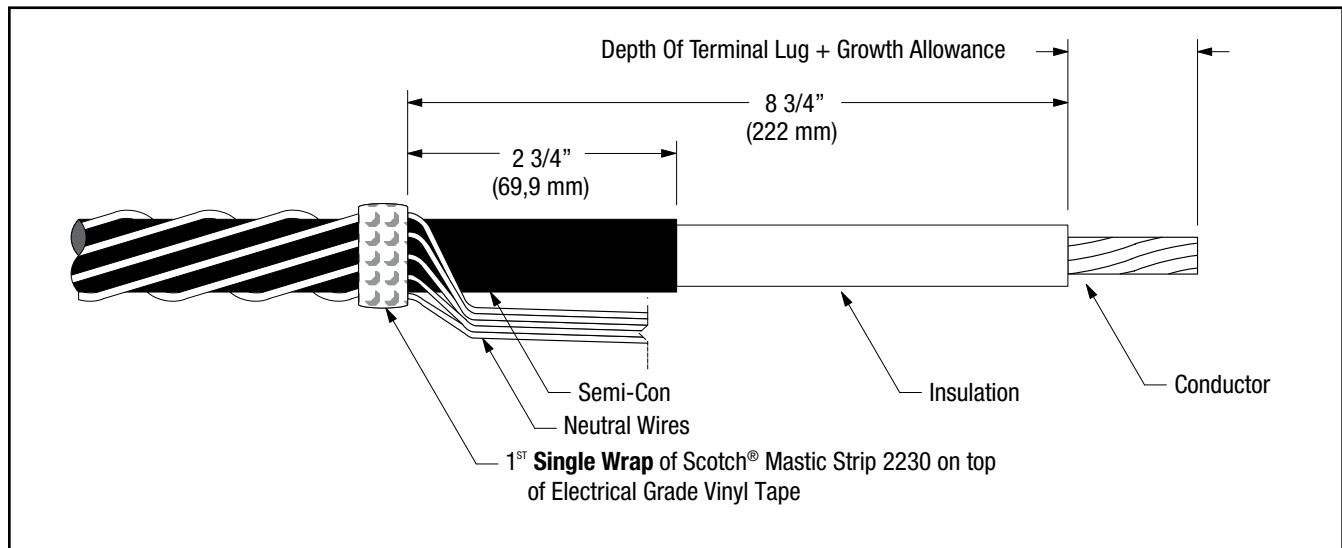

Figure 7
- 6.3 Prepare cable using dimensions shown in Figure 7. **BE SURE TO ALLOW FOR DEPTH OF TERMINAL LUG OR CONNECTOR.** If using 3M Shearbolt Lugs QL2 Series: Two Hole, or 3M Mechanical Shearbolt Connector QCI Series, proceed to Step 6.4. If using a Crimp Type (Compression) lug, measure the depth of the barrel. If using a Crimp Type (Compression) connector, measure to the barrel center stop/midpoint, and see the NOTE below in order to calculate the Insulation Removal Length. Table 7 can be used to assist in calculating the total Jacket Removal Length when using a compression lug or connector.
- 6.5 Secure neutral wires to cable with several highly stretched layers of electrical grade vinyl tape around the cable and neutral wires 2 3/4" (69,9 mm) from cut edge of cable semi-con (Figure 7).
- 6.6 Select a Scotch® Mastic Strip 2230 from kit and remove white release liners. Using light tension, apply a **SINGLE WRAP** of mastic around the cable and neutral wires 2 3/4" (69,9 mm) from cut edge of cable semi-con, directly on top of vinyl tape (Figure 7). Cut off excess.